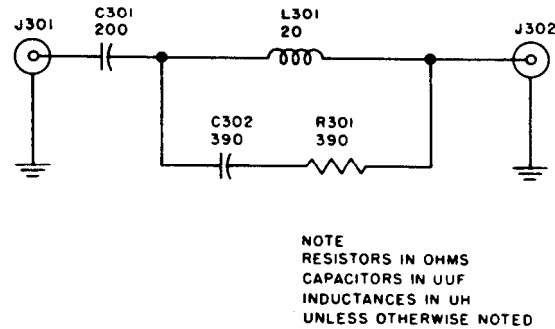

Figure 2-17. Electrical Dummy Load DA-109/URM-25F Simplified Schematic
14. DUMMY LOAD DA-109/URM-25F. (See figure 2-17.)